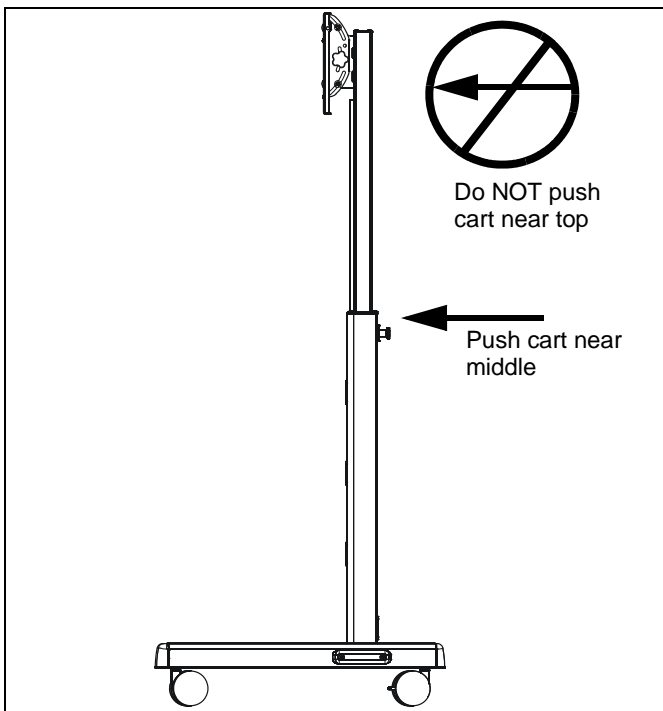

Figure 13
**WARNING: CART CAN TIP OVER RESULTING IN RISK OF INJURY!** Do not allow children under 16 to move cart. Only adults should move this cart. Move cart slowly. Apply moving force on narrow dimension. Never apply force at top - always push near middle. Push, don't pull cart. (See Figure 13)